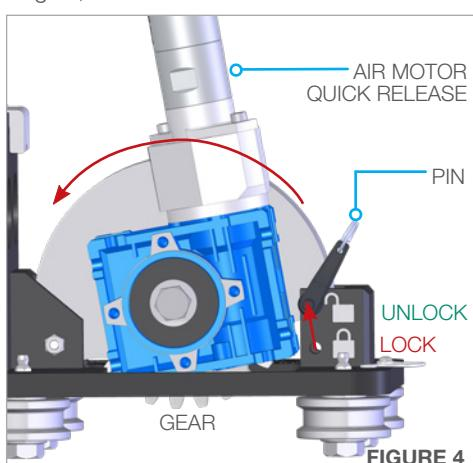

FIGURE 4
SCAFFOLD QUICK CLAMPS (LWP 554) are for use with scaffolding in situations where they may be no way to clamp directly onto the heat exchanger. (Figure 4)
4. Remove the **Quick Release Pin** from the *locked* position, pull back on the air motor to lift the gear, and insert the **Quick Release Pin** into the *unlocked* position. This will allow the **Horizontal Drive Carriage** to slide onto the rail without pneumatic power. Center the carriage on the top rail, pull out the **Quick Release Pin**, let the gear drop into place and verify the gear is engaging the slotted rail correctly. Replace the **Quick Release Pin** into the *locked* position. (**Figures 4 & 5**)